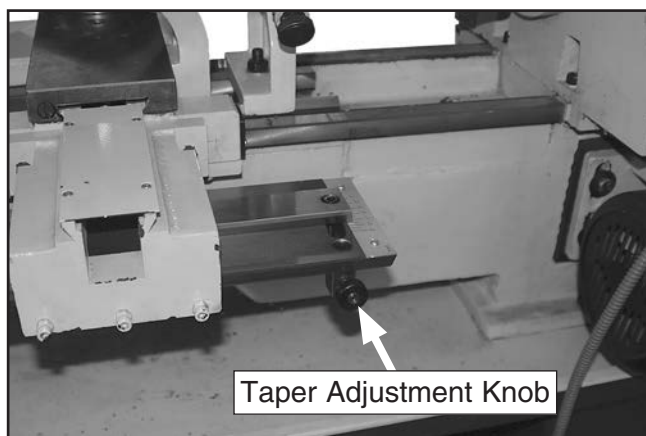

Figure 33. Location of taper adjustment knob.
7. Use the slide table scales and the taper adjustment knob (see **Figure 33**) to adjust the pivot bar for the desired taper.
2. Loosen the cap screws at each end of the pivot bar, rotate the taper adjustment knob (see **Figure 33**) to center the bar on the scales, then retighten the cap screws.